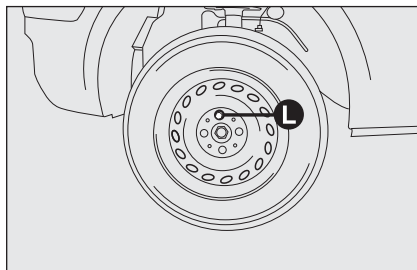

fig. 5
- ☐ for versions with hub caps, remove the cap after unscrewing the 3 fastening bolts and finally unscrew the fourth bolt **L**-fig. 5 and remove the wheel;